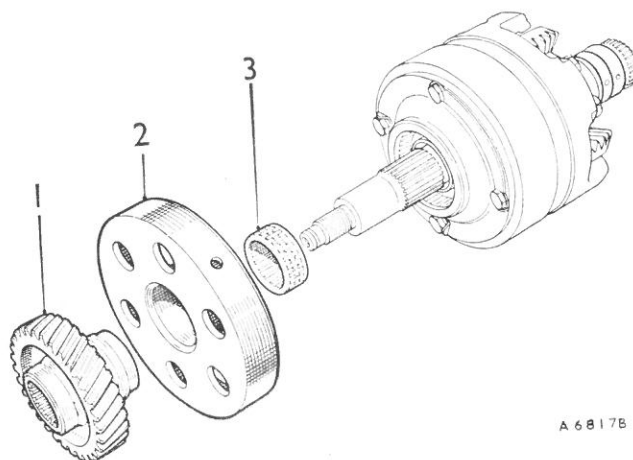
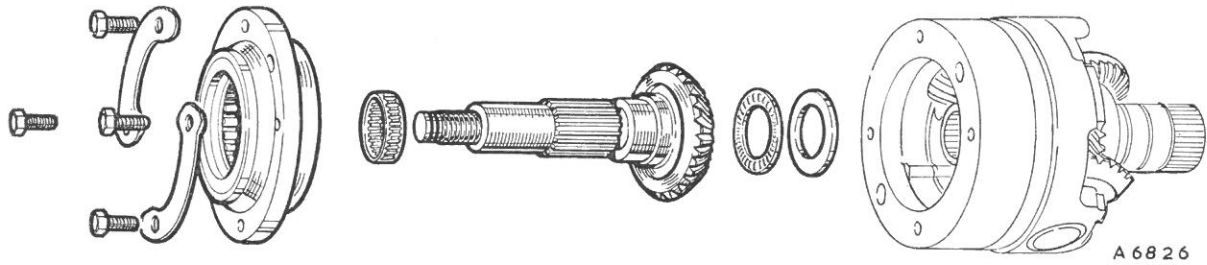
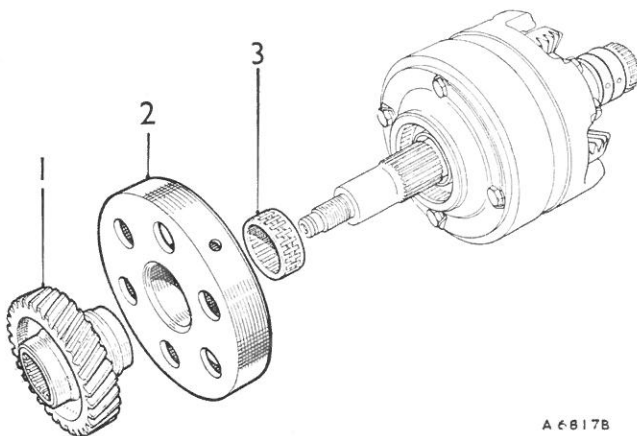

Fig. Fa.37
Fig. Fa.38
Fig. Fa.43
- (5) Remove the input gear, and pull off the first gear free-wheel reaction member and needle-roller bearing (Fig. Fa.37).
- (6) Knock back the lock washers and remove the first gear free-wheel housing set screws.
- (7) Pull out the first gear free-wheel assembly, input gear, Torrington thrust race, and washer (Fig. Fa.38).
- (23) Assemble the bevel input shaft with its Torrington needle thrust bearing and selective steel washer (see Fig. Fa.38).
- (24) Refit the one-way clutch to the gear train housing (Fig. Fa.38), tighten the securing bolts, and tap up the locking plate tabs.
- (25) Refit the free-wheel support.
- (26) Refit the input gear and needle-roller bearing (see Fig. Fa.43).